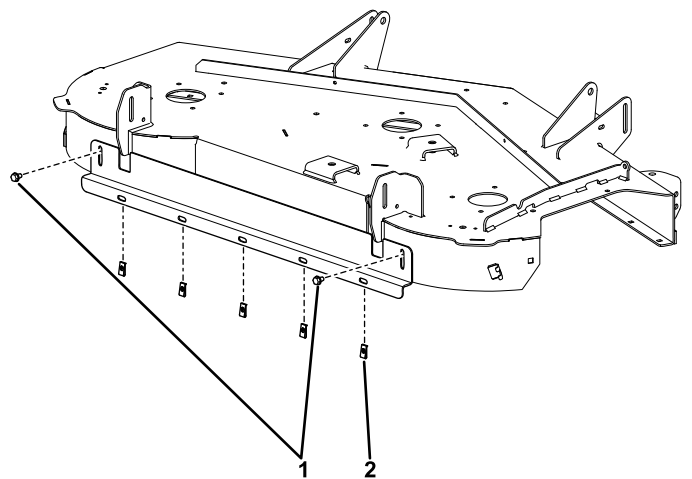

Figure 10
6. Install 5 speed nuts to the open holes in the bracket (Figure 10).